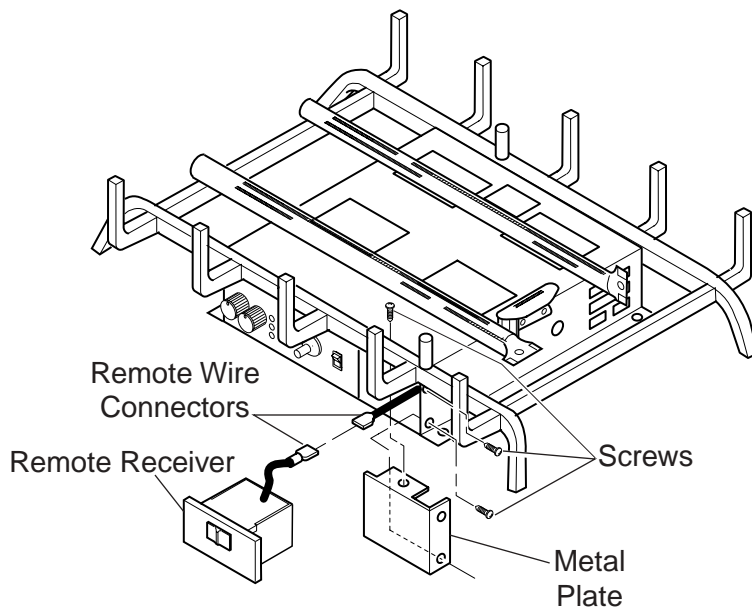

Figure 16 - Installing Remote Receiver
1. Unscrew 2 (two) screws located on the side of the frame. Unscrew 1 (one) screw located on top of the frame. Remove metal plate (Figure 16).
6. Connect the connectors to the two .25" male connectors located on the right side when facing the unit (Figure 16). Do not let the wire touch the grate or burners.